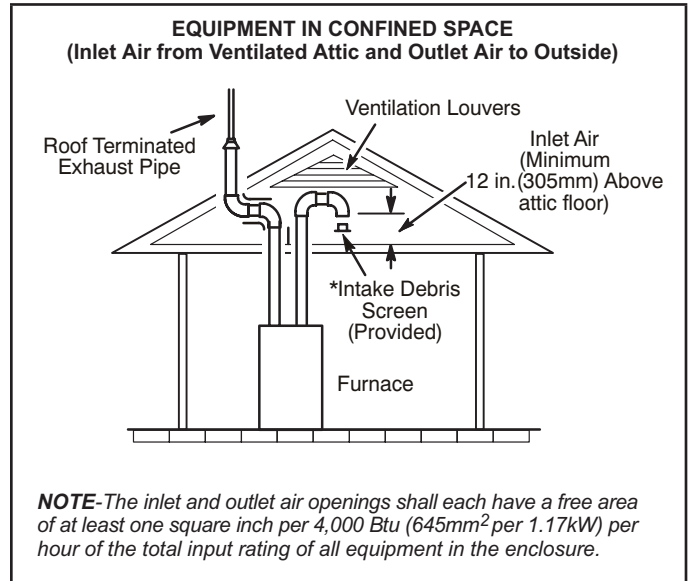
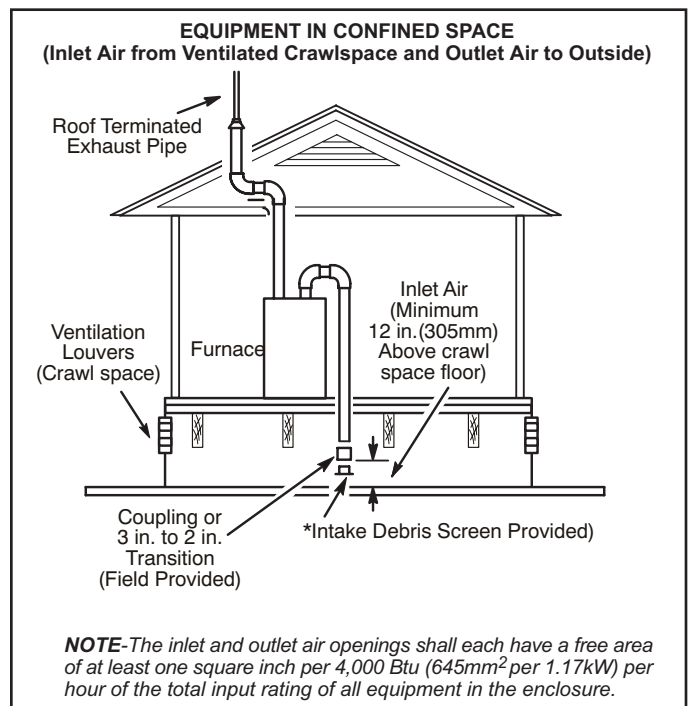

FIGURE 28
FIGURE 29
- 2 - If intake air is drawn from a ventilated attic (FIGURE 28) or ventilated crawlspace (FIGURE 29) the exhaust vent length must not exceed those listed in TABLE 13. If 3" diameter pipe is used, reduce to 2" diameter pipe at the termination point to accommodate the debris screen.